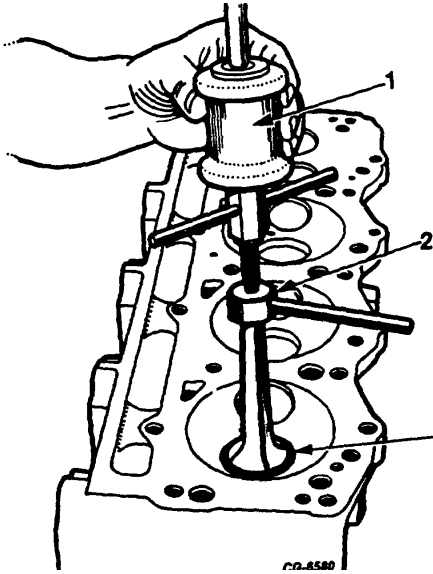

Figure 38. Removing valve Seat Insert
15. Using remover tool HC1044 (Figure 38) to remove intake valve inserts. Position remover collet to insert and turn coned screw out to